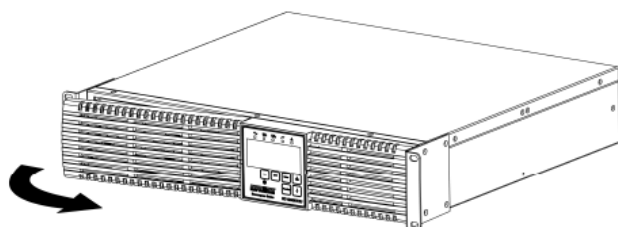

FIG. 1
6. Grasp the battery door on the left-hand side, pull it outward and then set it aside (FIG. 1).